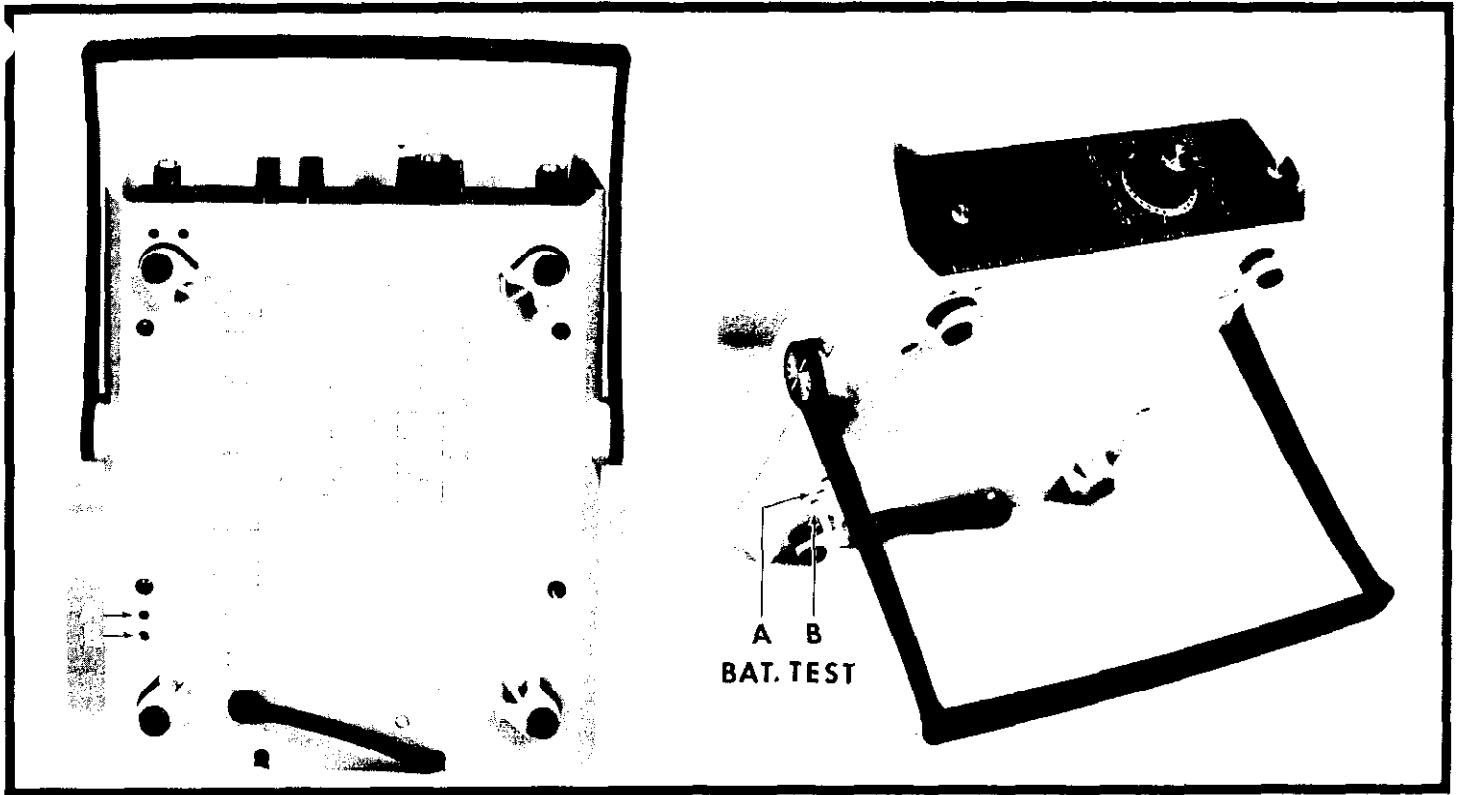

FIGURE 9. Battery Test Location.
2. How to Check Batteries. (Valid only in BAT mode). The Model 160B provides two test points (A and B) located on the bottom of the instrument as shown in Figure 9. These test points permit a convenient check of the condition of the internal Battery Pack without need to remove the Model 160B cover. The voltage at test points A or B may be measured using the Model 160B or any other comparable voltage measuring instrument. To check the voltages at test points A or B, select the BAT mode, connect the HI terminal of the Model 160B (for a self check) or other voltmeter to test points A or B and observe the measured voltage. (If a separate voltmeter is used, it is necessary to make a connection to the LO terminal of the Model 160B since both points A and B are to be referenced to circuit low.) Table 2-3 gives the battery voltages required at each test point.